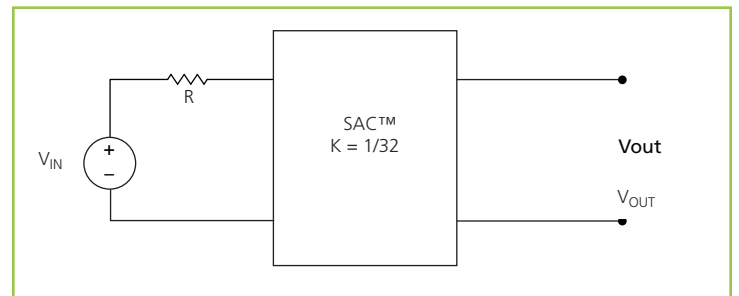

Figure 15 — K = 1/32 Sine Amplitude Converter™ with series input resistor
interesting attributes. Assuming that R\_OUT = 0 Ω and I\_Q = 0 A, Eq. (3) now becomes Eq. (1) and is essentially load independent, resistor R is now placed in series with V\_IN as shown in Figure 15.
Assuming that  $R = 1 \Omega$ , the effective R as seen from the secondary side is 0.98 m $\Omega$ , with  $K = 1/32$  as shown in Figure 15.